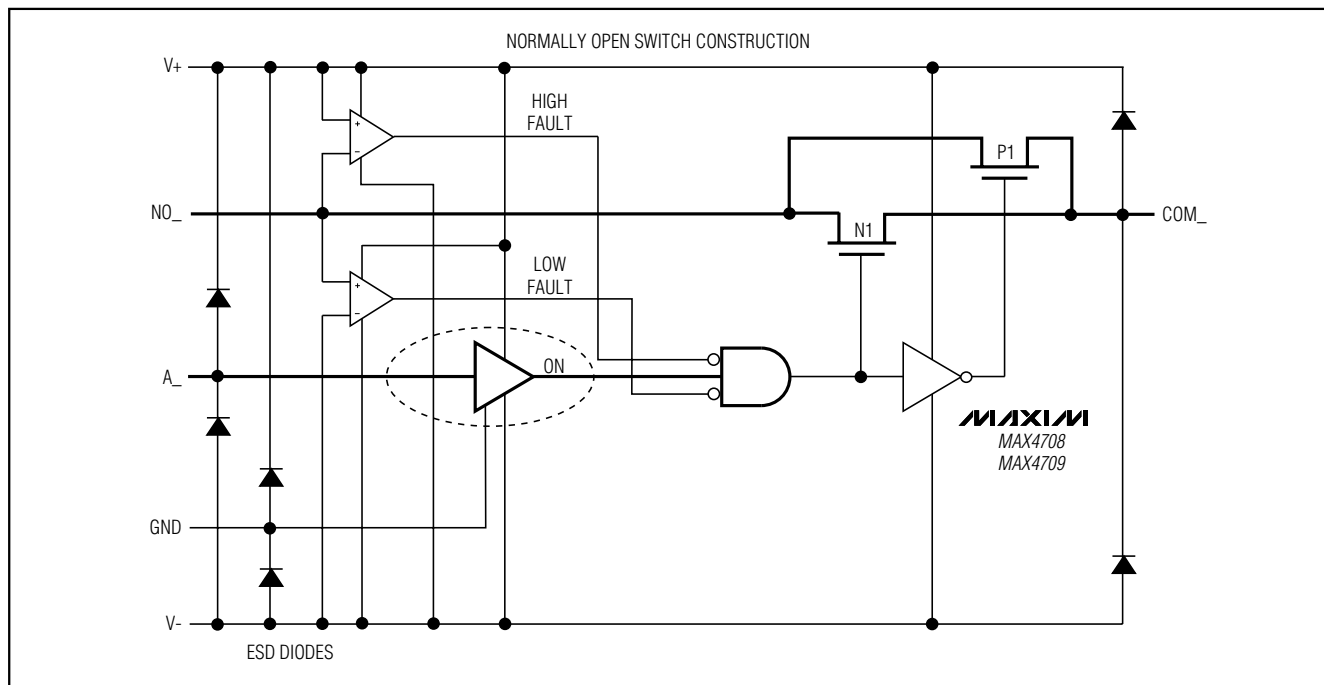

Figure 1. Functional Diagram
Figure 1 shows the internal construction of a single normally open (NO) switch, with the analog signal paths shown in bold. The parallel combination of N-channel FET N1 and P-channel FET P1 form the analog switch. During normal operation, these FETs are driven on and off simultaneously according to the control voltages on A₊. During a fault condition, both FETs turn off.
Two comparators continuously compare the voltage on NO₊ with V_+ and V_- supply voltages. When the signal on NO₊ ranges between V_+ and V_- , the multiplexer operates normally, with FETs N1 and P1 turning on and off in response to the control signals on A₊ (Figure 1). When the switch state is on, the parallel combination of N1 and P1 forms a low-value resistor between NO₊ and COM₊ so that signals pass equally well in either direction. When the switch state is off, both NO₊ and COM₊ are high-impedance inputs.